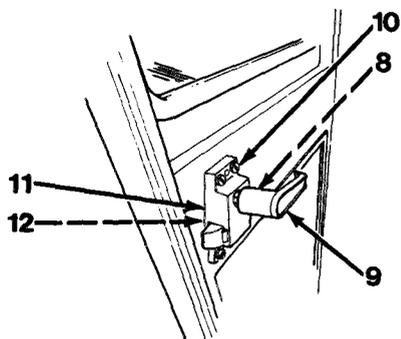
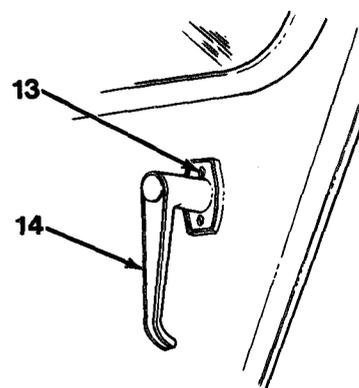

Figure 14-2
Figure 14-3
2. Remove two nuts (2), washers (3), lockwashers (4), capscrews (5), hinges (6) and shims (7) from top of doorway.
3. Remove two nuts (2), washers (3), lockwashers (4), capscrews (5), hinges (6) and shims (7) from bottom of doorway.
4. Drive out roll pin (8) from inside handle (9, Figure 14-2).
5. Remove inside handle (9), four screws (10), inside latch (11) and spacer plate (12).
6. Remove two screws (13) and outside handle (14, Figure 14-3).